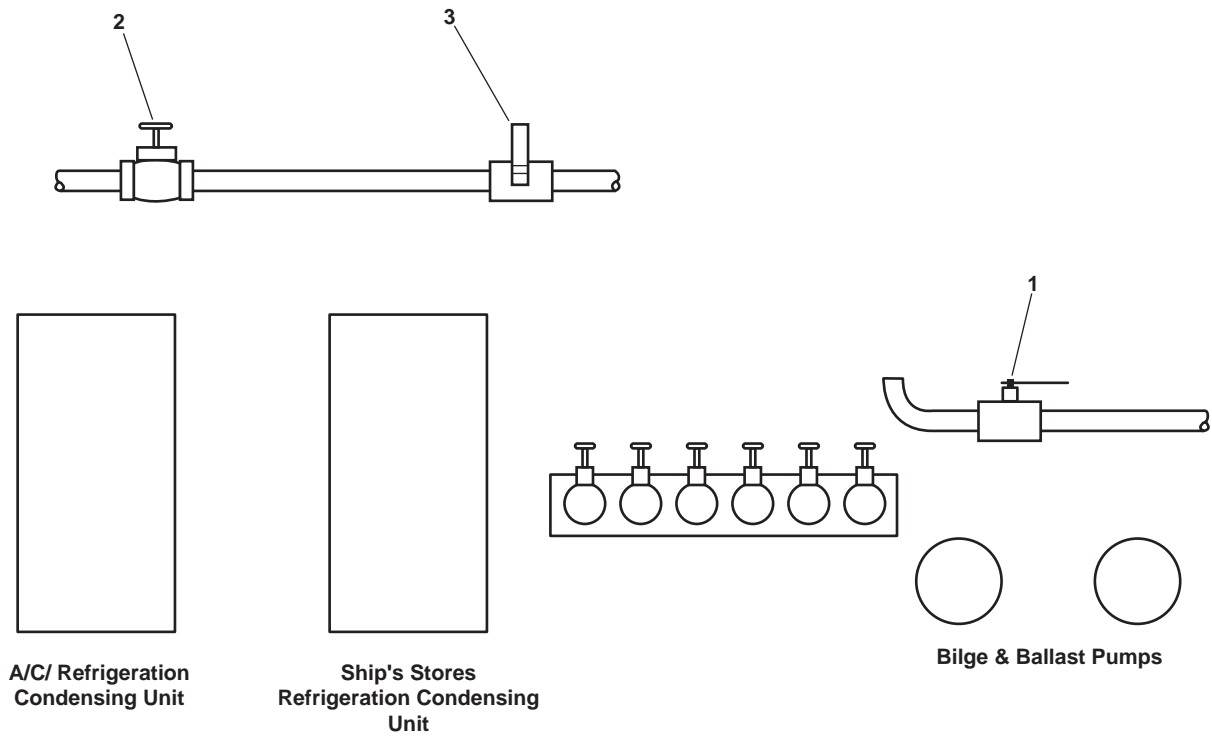

Figure 10. Potable Water Valves on AMS 2 Aft Bulkhead
- c. RO-V-9, (figure 10, item 1), fresh water flush pump supply valve.
- g. PW-13 (figure 10, item 2), starboard potable water tank fill valve.
- h. PW-12 POT. WTR. TK. PORT FILL (figure 10, item 3).